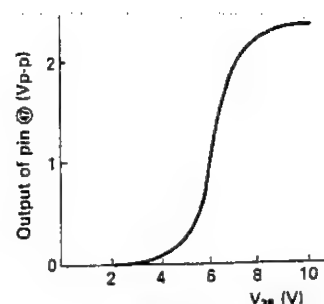

Figure 44-3.
The gain of the amplifier (C) is variable with change of DC voltage at the colour saturation control terminal (pin 38). With regard to the colour saturation for which the final colour tracking is done by the SECAM chroma IC, it is arranged that DC voltage of pin 29 is directly applied to the buffer and goes out of pin 3 entering the SECAM chroma IC. Therefore, the gain of the amplifier (C) is fixed with the maximum contrast and is variable with change of DC voltage of pin 38. Fig. 44-3 shows the colour saturation characteristic.